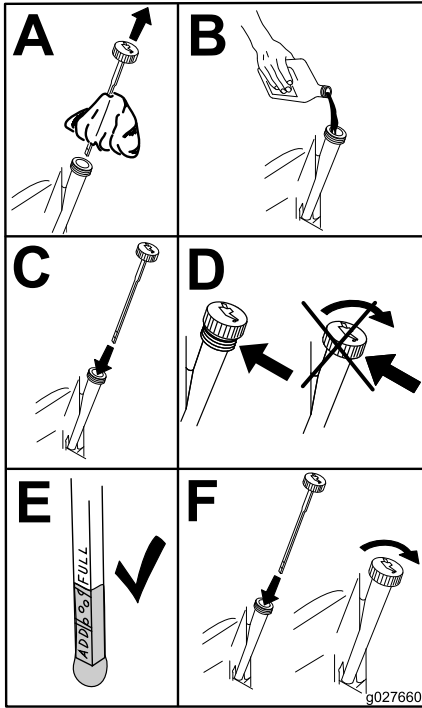

Figure 50
6. Slowly pour approximately 80% of the specified oil into the filler tube and slowly add the additional oil to bring it to the Full mark (Figure 50).
3. Fill the crankcase with the proper type of new oil (Figure 50).